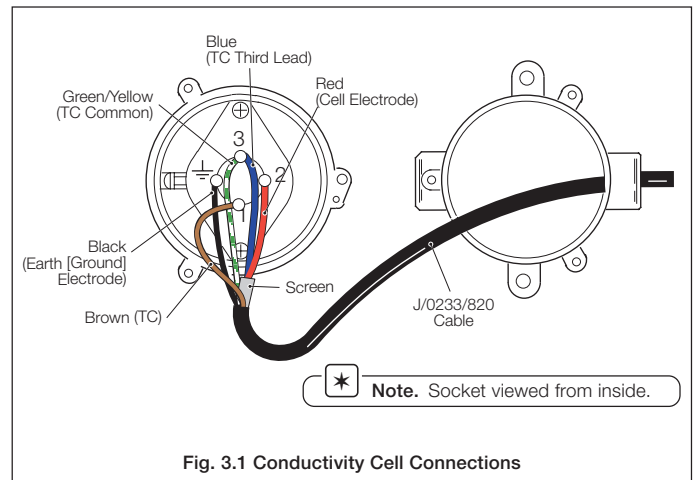

Fig. 3.1 Conductivity Cell Connections
3.1.1 Conductivity Cell Connections – Fig. 3.1